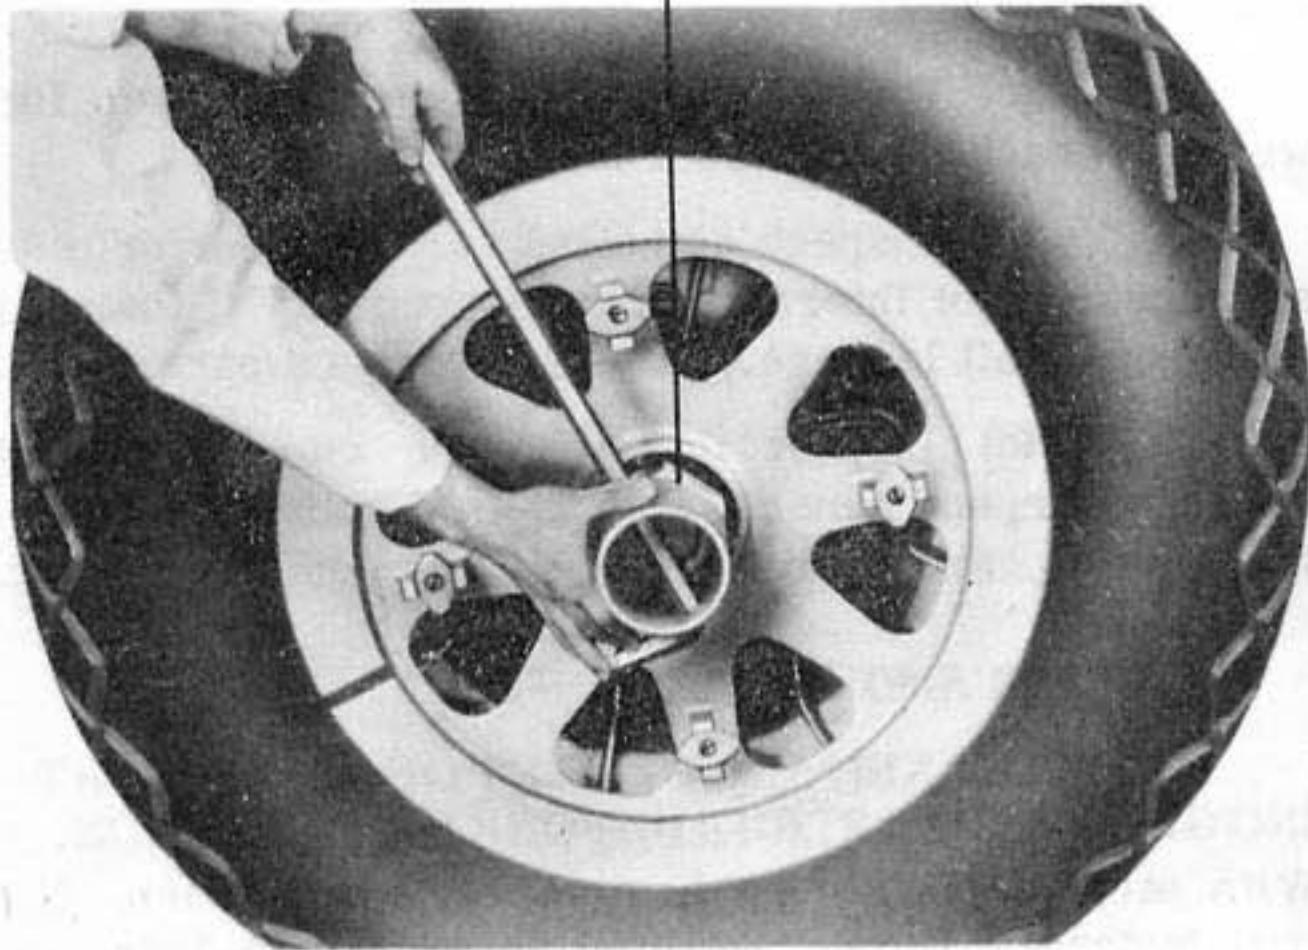

Figure 71 - REMOVING MAIN ALIGHTING GEAR WHEEL
(5) REMOVAL OF MAIN ALIGHTING GEAR WHEEL. (See figure 71.)